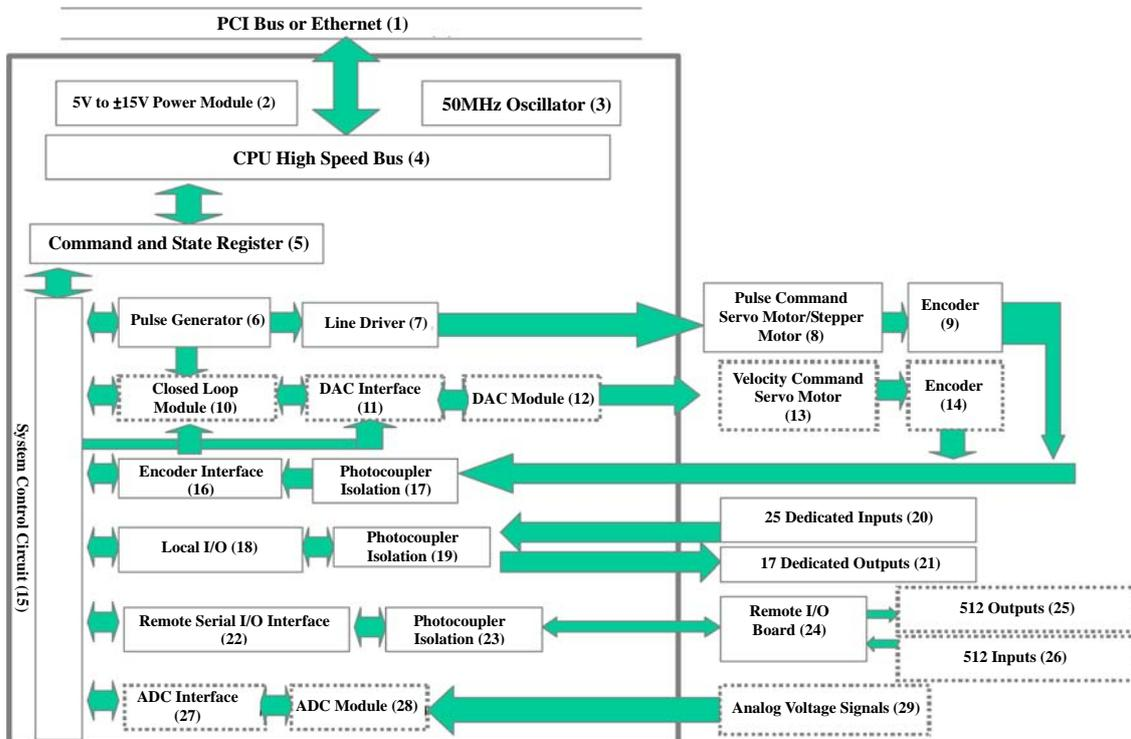

Fig. 1-6
Refer to the functional block diagram of the IMP-2 (Fig.1-6): When the IMP-2 receives the motion control commands commenced by the user, the motion control commands will be transmitted through the *PCI Bus* or *Ethernet (1)* to the internal *CPU High speed Bus (4)* of the IMP-2 and then sent to the internal *Command and State Register (5)* and *System Control Circuit (15)*. In the end, the commands drive the internal to evenly generate the pulses (Pulse Command) (Three formats selectable: A/B phase, CW/CCW, and Pulse/Direction). The pulses through the *Line Driver (7)* (MC3487) in differential signals to feed the external motor driver to drive the pluse mode of *Servo Motor/Stepper Motor (8)*; The motor's *Encoder (9)* signal via the *Photocoupler Isolation (17)* into the *Encoder Interface (16)*, and then the signal will be stored in the *Command and State Register (5)* through the *System Control Circuit (15)*.
Refer to the functional block diagram of the IMP-2 (Fig.1-6): When the IMP-2 receives the motion control commands commenced by the user, the motion control commands will be transmitted through the *PCI Bus* or *Ethernet (1)* to the internal *CPU High speed Bus (4)* of the IMP-2 and then sent to the internal *Command and State Register (5)* and *System Control Circuit (15)*. In the end, the commands drive the internal *Pulse Generator (6)* to evenly generate the pulses (Pulse Command), which will be sent to the *Closed Loop Module (10)* while the feedback signal from the motor's *Encoder (14)* (differential signal) transmits back to the IMP-2. The signals are received and isolated by the *Photocoupler (17)* prior to entering the *Encoder Interface (16)* for signal processing (including filtering) and then fed into the *Closed Loop Module (10)* for calculation. The *Closed Loop Module (10)* carries out the feedback control based on the PID and FF algorithm (Note 1) according to the number of pulses from the Pulse Generator and the number of pulses feedback from the encoder. The resultant signal will drive the *DAC Module (12)* (including AD1866R and TL074 amplification stage) through the *DAC Interface (11)* (D/A → Digital to Analog) to generate a voltage signal between -10V and +10V (Velocity Command). In the end, the speed command is sent to the *Velocity Interface Servo Motor (13)* (Note 2) through the IMP-WB-1/2.
Refer to the functional block diagram of the system as shown in Fig. 1-6: When the IMP-2 receives the motion control commands commenced by the user, the commands will be fed into the IMP-2 through the *PCI-Bus* or *Ethernet (1)*. The IMP-2 will carry out the data reading or writing operation for the *Local I/O (18)*. The output signals are via the *Photocoupler Isolation (19)* and then amplified to increase the driving capability to connect the external device. The input signals are also via the *Photocoupler Isolation (19)* and then transmit into the *Local I/O (18)*.
Refer to the functional block diagram of the system as shown in Fig.1-6: The IMP-2 is connected with the remote I/O board (IMP-ARIO) developed by MSL of ITRI. By using the asynchronous master/slave serial communication method as well as the serial connection of the remote serial *I/O Interface (22)*, *Photocoupler Isolation (23)* and *Remote I/O Board (24)*, the system can be expanded to accommodate up to *512 Outputs (25)* and *512 Inputs (26)*.
Refer to the functional block diagram of the system as shown in Fig. 1-6: 8 channels of *Analog Voltage Signals (29)* (selectable for the ranges of -5V~5V or 0V~10V) connect to the *ADC Module (28)* for the IMP-2 to read the voltage values (14-bit resolution) through the *ADC Interface (27)*.
Refer to the functional block diagram of the system as shown in Fig. 1-6: The IMP-2 directly send commands through the *System Control Circuit (15)* toward the *DAC Interface (11)*, and then converted into analog voltage command output by the *DAC Module (12)*. The IMP-2 provides 8 channels of the analog voltage output, the output voltage range of $\pm 10V$. Each of these 8 channels of analog voltage output with an encoder feedback and a pulse output control is able to process hardware close loop control. However, when the channel is not used for hardware closed loop control, the DAC can be used separately. The voltage offset of the IMP-2 has been adjusted to be close to 0V at the factory. When the user uses the DAC function only, it is not necessary to adjust the voltage offset.